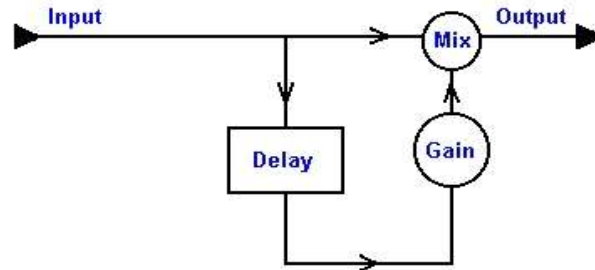

Figure 1: Illustration of echo system
The echo is one of the simplest effects used in musical signal processing. The echo filter adds the current input to a delayed input with a gain that is less than 1 in order to produce the output. This is accomplished by using the delay routine shown in figure 1.
- Write a program that performs the echo system shown in Figure 1 and apply it to the signal in step 1 with Gain = 0.5 and delay = 500ms.